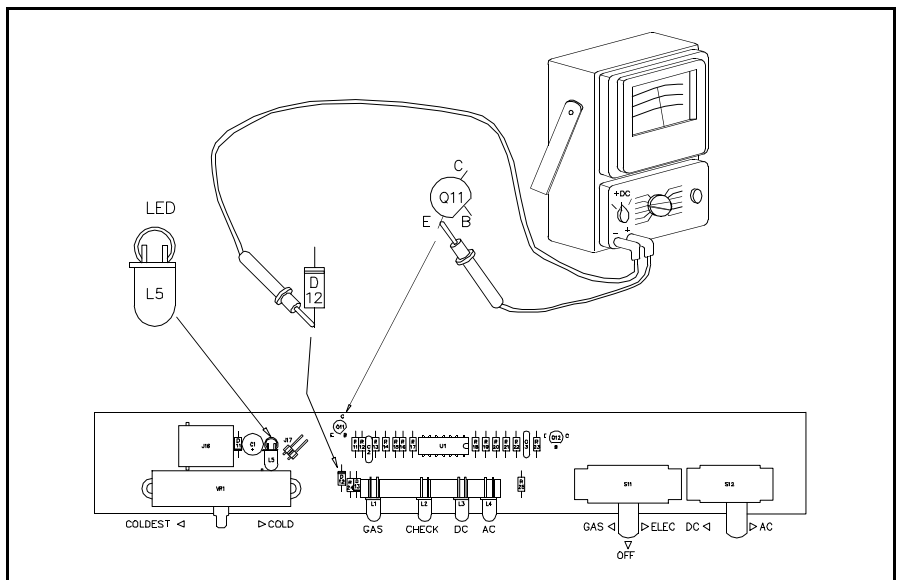
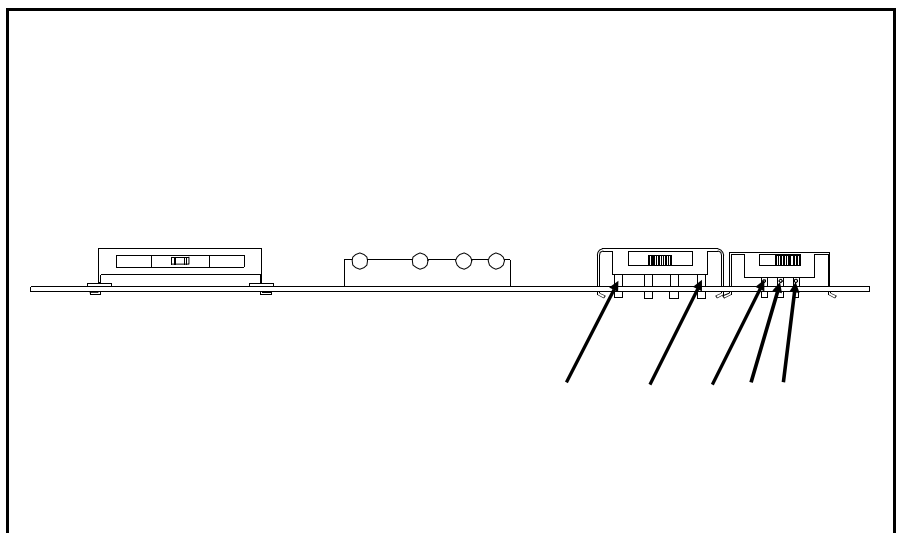

Figure 5.49 12 Volt DC Check
Figure 5.50 Control Voltage Check
15. Set the Mode Selector switch to the OFF position as shown by Figure 5.49.
16. Connect a volt meter as shown in Figure 5.49.
20. With the volt meter's negative lead at D12, as shown in Figure 5.49, check the switch terminals shown in Figure 5.50.
22. Set the Mode Selector switch (es) to AC ELECTRIC Mode. Use the Volt meter (with negative lead still connected per Figure 5.49) and check Points B, D and E as shown in Figure 5.50. You should measure approximately 2 Volts DC. If not, replace the Eyebrow Board.